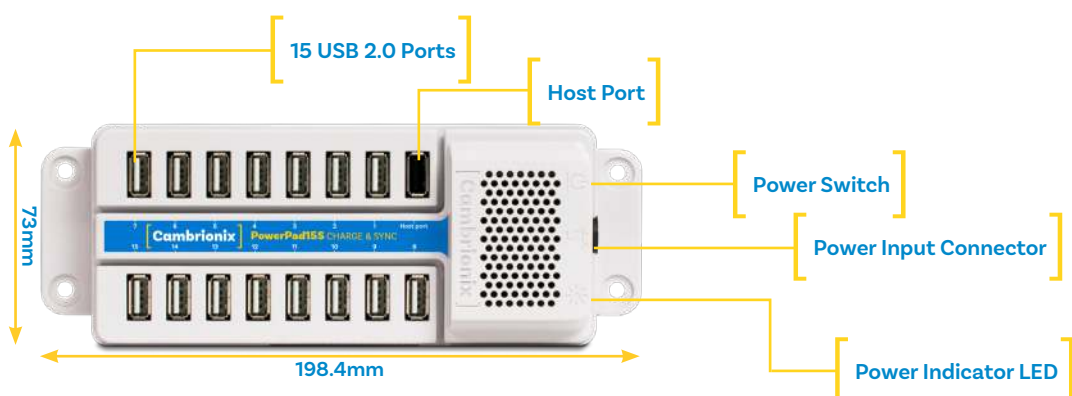

Figure 1
- The PowerPad15S unit (see Figure 1 below)